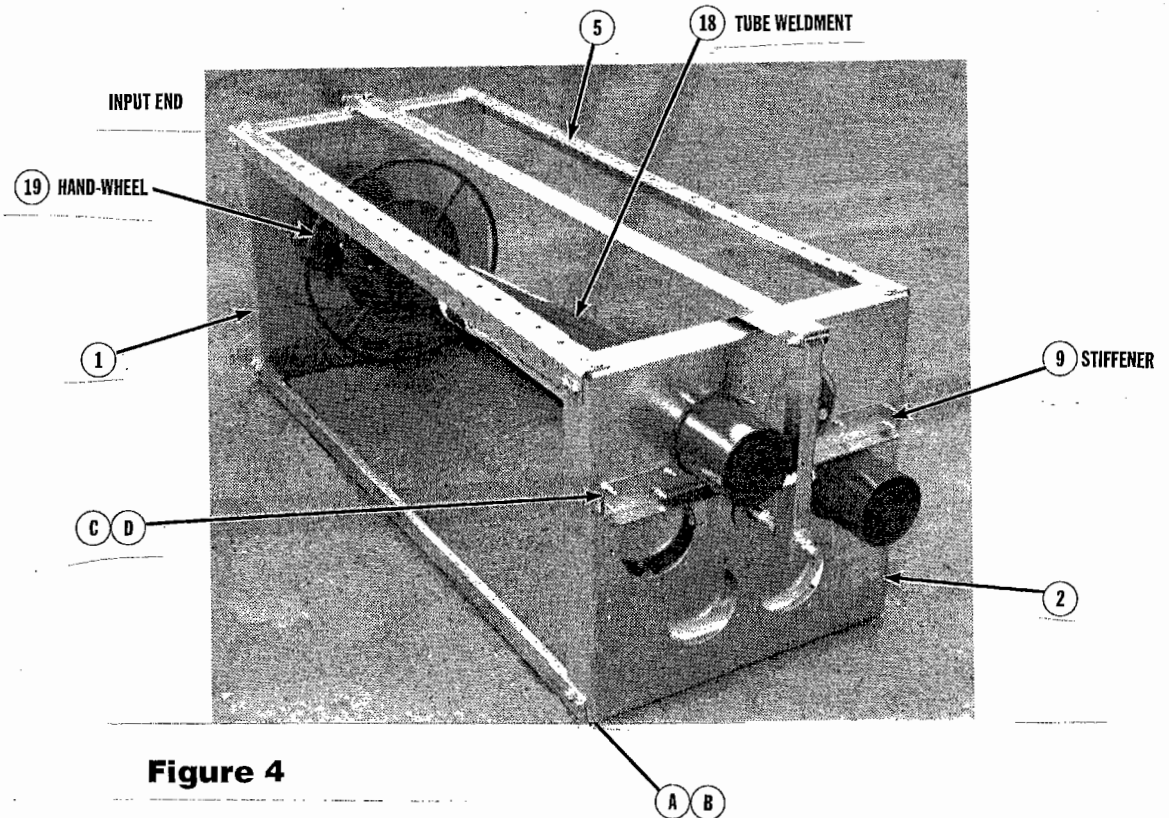

Figure 4
7. Install handwheel (item 19) to offset tube weldment (item 18) from short end of tube using 1/4 x 1" hex-flange whiz-lock bolts and nuts (hardware items C and D). See figs. 4 and 6.